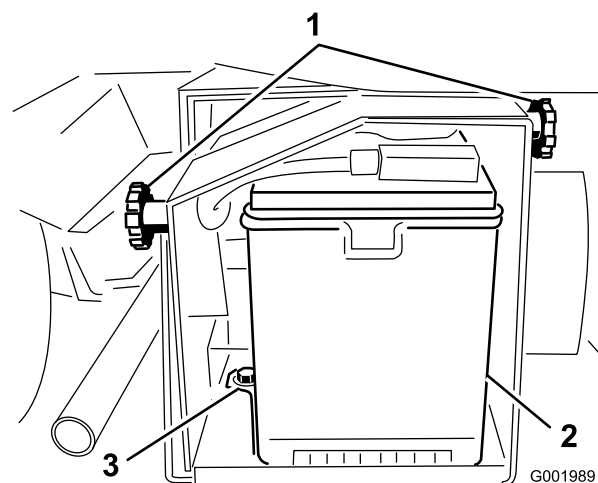

Figure 4
1. Locate the battery on the right side of the machine. Loosen the knobs on the sides of the battery box and remove the battery cover (Figure 4).
3. Replace the battery cover and secure it with the knobs removed previously (Figure 4).